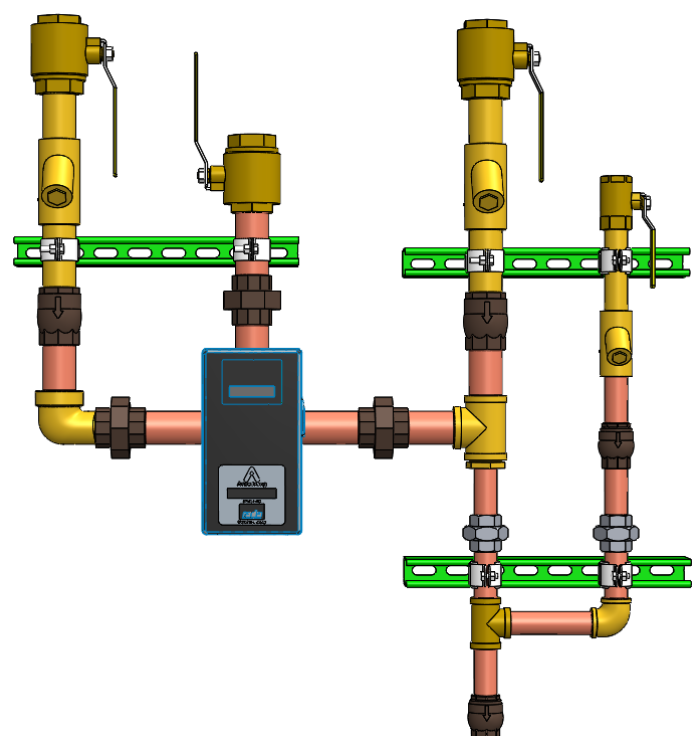

Figure 7: Complete Assembly
6. Mount the remaining 2 pieces of Unistrut in the locations indicated on the drawing at the end of the TSB and attached Sub-Section #2 (*see Figure 7*)